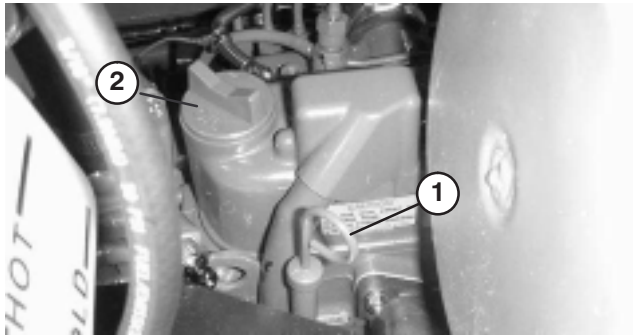

Figure 11
2. Remove dipstick (Fig. 11), wipe clean and reinstall dipstick. Remove dipstick and check oil level. Oil level should be up to FULL mark on dipstick